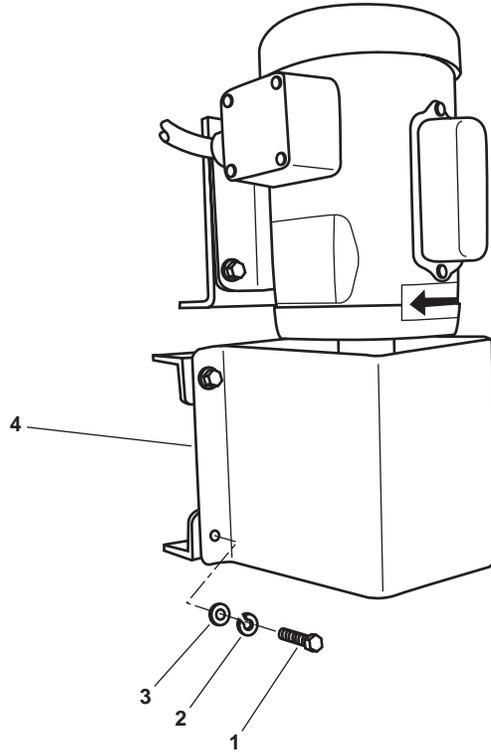

Figure 2. Coupling Guard Removal
5. Remove the four bolts (figure 2, item 1) four lockwashers (figure 2, item 2), and four flat washers (figure 2, item 3), from the coupling guard (figure 2, item 4). Discard the lockwashers.
6. Remove the coupling guard (figure 2, item 4).